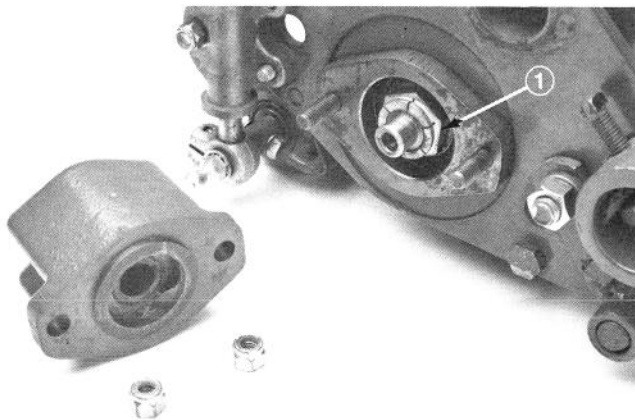

Figure 14
3. With the wrench mounted, hold the reel and tighten the large reel bearing adjustment nut (Fig. 14). Tighten until the drag on the reel meets 7 to 11 inch-pound specification.
4. Reinstall bolt into end of the reel shaft and check the torque with an inch/pound torque wrench (Fig. 14).